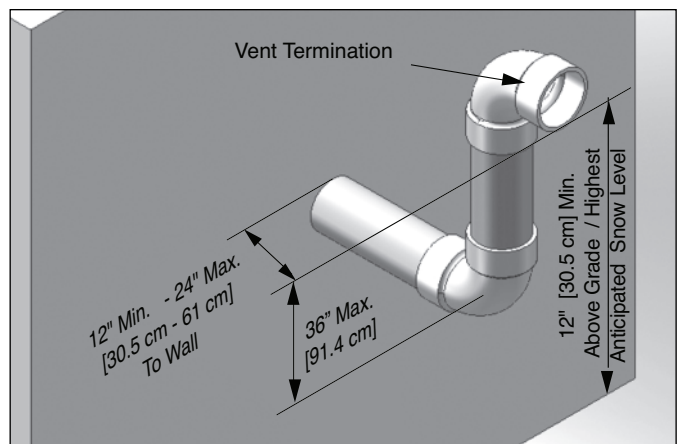

Fig. 18: Category IV - Sidewall Snorkel Termination of Vent Pipe with 90° Elbow Termination
- Using a 90° elbow as shown in Fig. 18.
- Using a 90° elbow as shown in Fig. 18 on page 28.